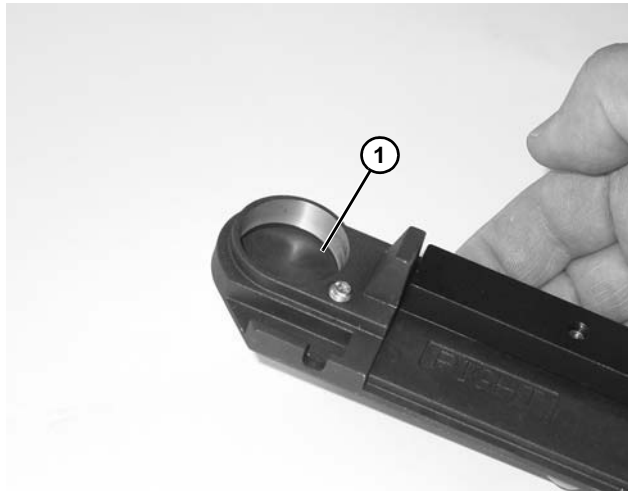

Figure 58
1. Inspect the head plates bearing seating surface (**Figure 58, item 1**). If they are worn or damaged, replace. See “Service Parts” on page 32.